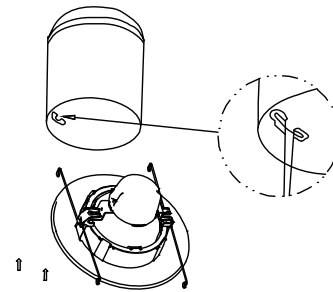

Figure3
- STEP4:** Squeeze the torsion springs together and install into torsion spring brackets inside the housing as shown. (Figure 3)